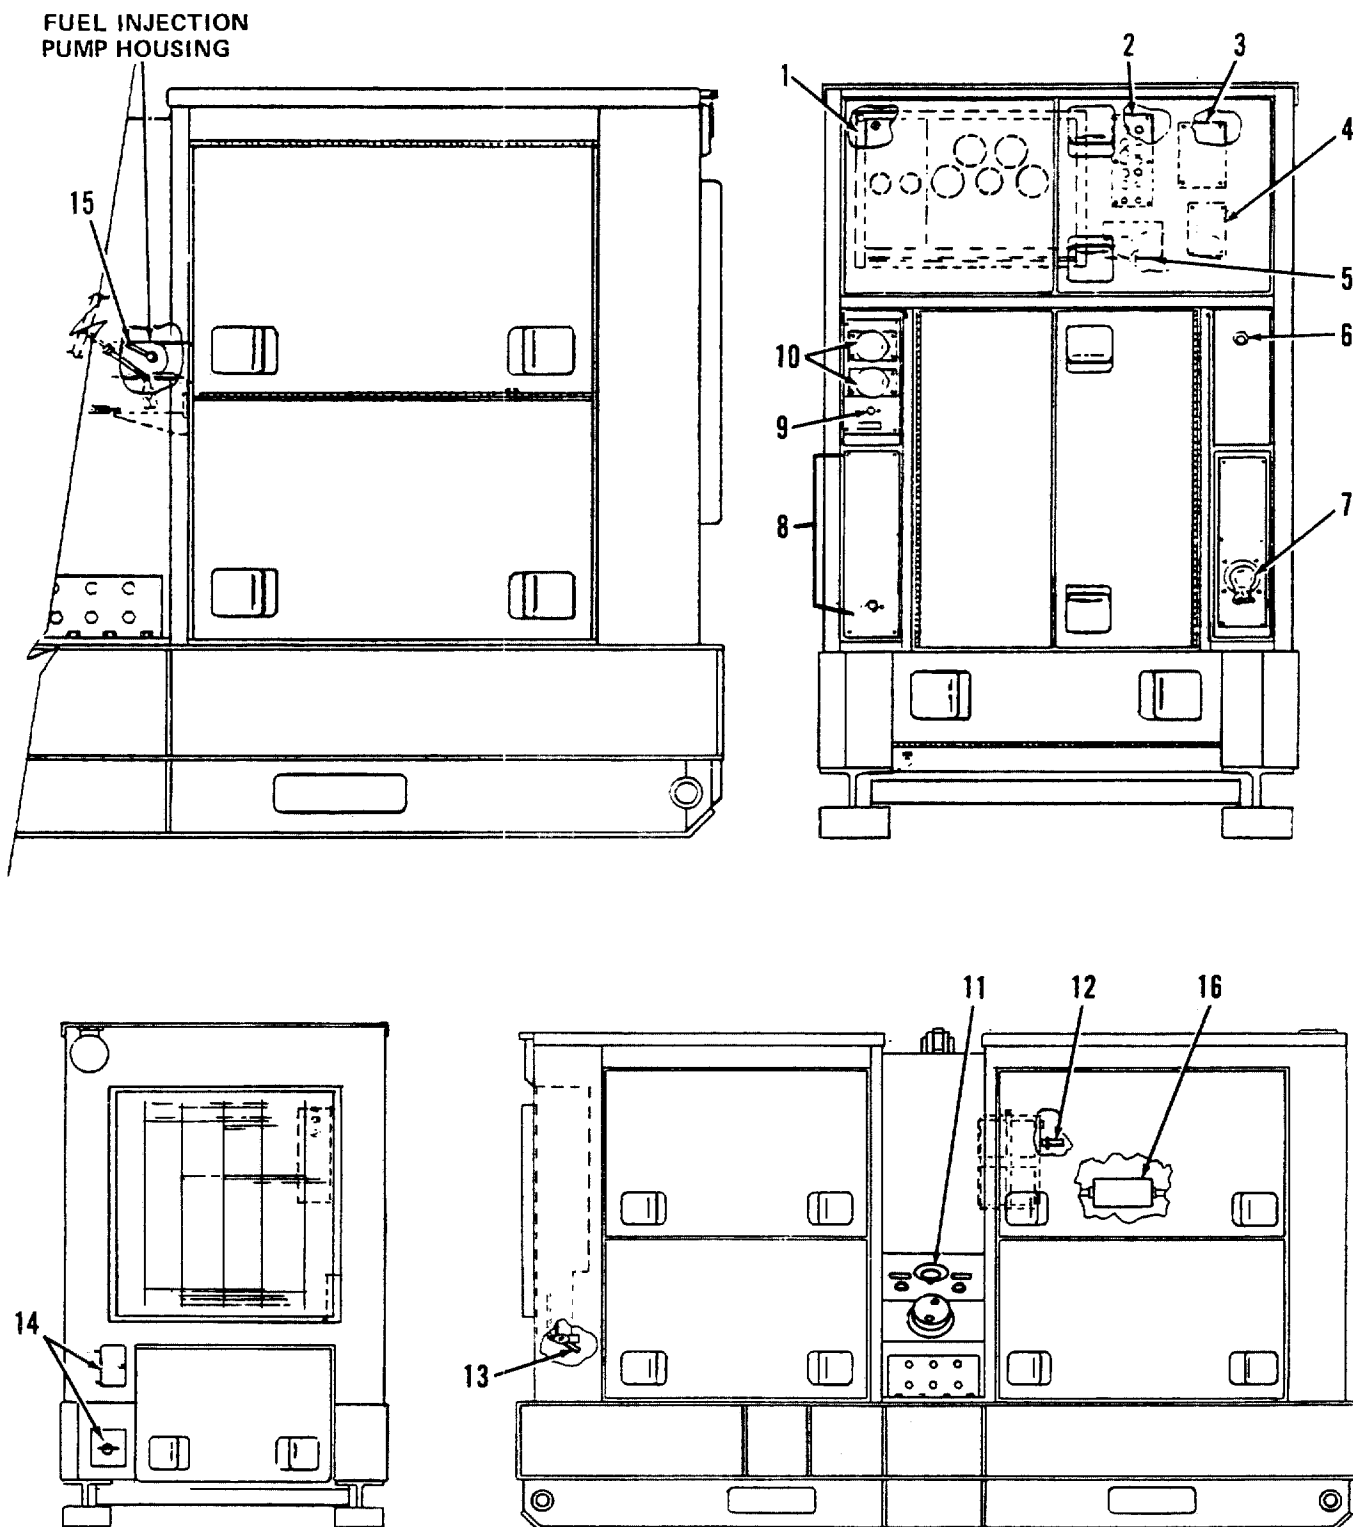
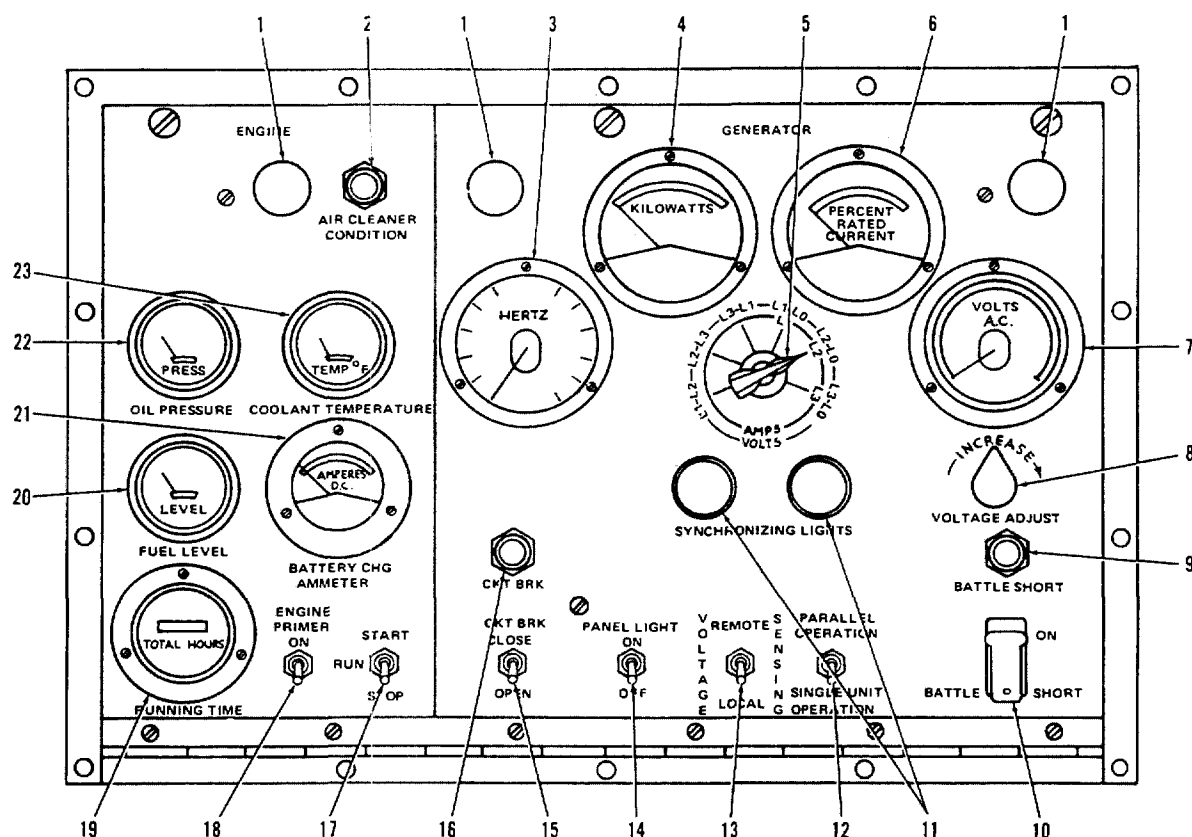

Figure 2-1. Location of Controls, Instruments, and Receptacles
Figure 2-2. Control Cubicle, Controls and Indicators
2-1. GENERAL. This section provides information on how to operate the generator set under normal conditions. Conditions other than those covered in Section III of this chapter and where the generator set is functioning properly are considered normal. The location and function of the controls and indicators necessary for operating the generator set are presented in figures 2-1 through 2-3 and tables 2-1 through 2-3. The purpose of these figures and tables is to enable the operator to become generally familiar with these controls and indicators prior to actually operating the equipment. Take the time to study these figures and tables while inspecting the actual equipment. The knowledge gained will greatly improve your ability to operate the generator set. The step-by-step operating instructions for starting the generator set are presented beginning with figure 2-4. The operating procedures are followed by detailed instructions on how to apply an electrical load to the generator, and then by procedures for stopping the generator set. If equipment malfunctions, refer to the troubleshooting and maintenance procedures in Chapter 3.
2-2. CONTROLS AND INDICATORS. The purpose, location, and normal operating readings or settings of generator set controls and indicators are illustrated in figures 2-1 through 2-3 and described in tables 2-1 through 2-3.
- e. Set the fuel transfer valve (11, figure 2-1) to desired source of fuel: preferably the, AUXILIARY tank, if it is connected.
- f. Set PARALLEL OPERATION-SINGLE UNIT OPERATION select switch (12, figure 2-2) to SINGLE UNIT OPERATION.
- g. Set VOLTAGE ADJUST-INCREASE control (8, figure 2-2) to lower half of adjustment range.
- h. Depress DC CONTROL CIRCUIT BREAKER (5, figure 2-1) to on position.
- i. Set START-STOP-RUN switch (17, figure 2-2) to RUN.
1. Set CKT BRK-CLOSE-OPEN switch (15, figure 2-2) to OPEN.
m. Push and release AIR CLEANER CONDITION indicator (2, figure 2-2), BATTLE SHORT indicator (9, figure 2-2), and CKT BRK indicator (16, figure 2-2). Each should light and go out when released.
(1) If AIR CLEANER CONDITION indicator remains lit, service the air cleaner. Refer to paragraph 3-16a.
(2) If CKT BRK indicator remains lit after setting CKT BRK switch to OPEN, refer to appropriate level of maintenance as described in the Maintenance Allocation Chart (MAC).
n. Depress lock button on manual engine speed control (6, figure 2-1) and set to mid-range position.
a. Ensure that PARALLEL OPERATION-SINGLE UNIT OPERATION switch (12, figure 2-2) is set to SINGLE UNIT OPERATION.